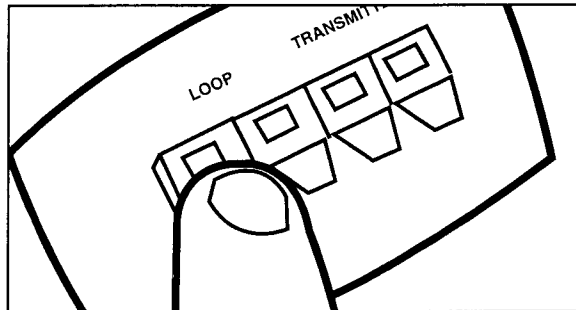

figure 1
- 2** Insert the stripped ends of the in-ground loop wire into the left two red connector holes on the bottom of the LP-4100. Use your finger to depress the tab, then insert the wire and release the tab (see figure 1).